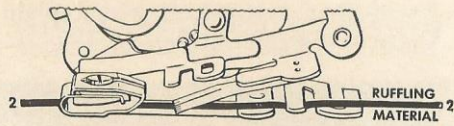

Fig. 72. Correct Position for Material
3. Insert material to be pleated between two blue blades Line 2, Fig. 72.